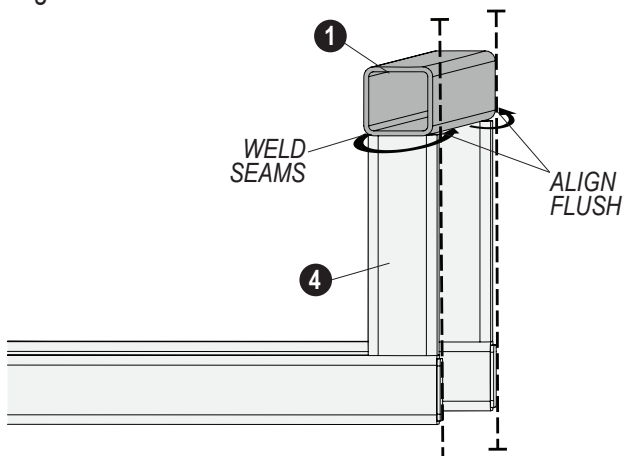

FIG. 176
- Align each **bridge mount tube (1)** flush with the outside edge of the **offset tubes (4)**.
- Prep and weld completely around the joint between the **offset tubes (4)** and **bridge mount tube (1)**, see Figure 176.